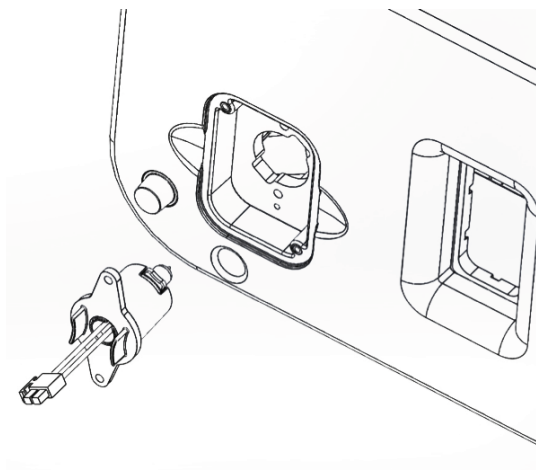

Fig. 3
5. Grab the two tabs on the plastic lamp assembly and remove the whole lamp assembly, this may need to be rotated slightly to allow it to be removed (fig 3).